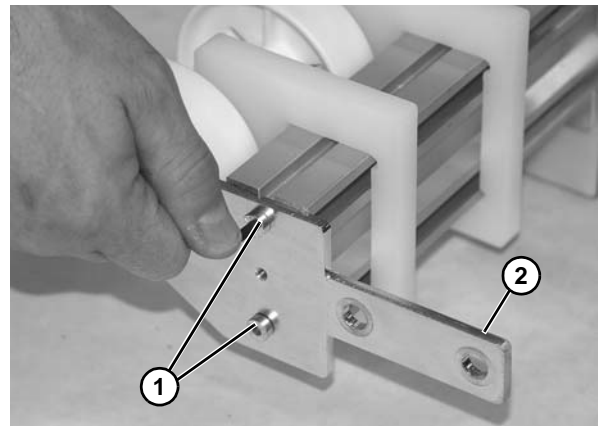

Figure 80
6. Remove two socket head screws (Figure 80, item 1) and idler backing plate (Figure 80, item 2).